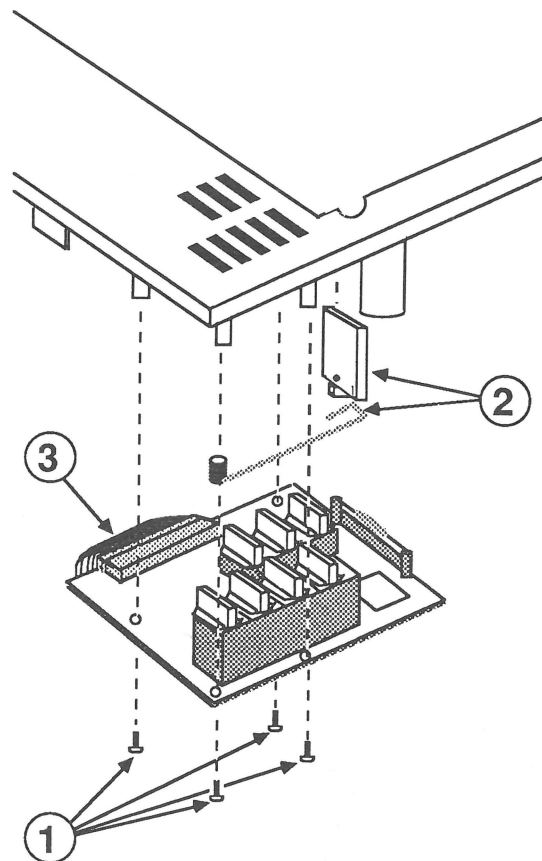

FIGURE 2
3. Remove the four screws holding the operation panel (Figure 2, #1).
4. Lift the operation panel from the top cover. Remove the power button and spring (Figure 2, #2).
5. Unplug the cable from the switch assembly panel (Figure 2, #3).
2. Connect the power button and spring (Figure 2, #2) by placing the coiled half of the spring over the outer-corner screw mount, and over the button in the top opening on the cover.
3. Plug the cable into the operation panel (Figure 2, #3).
5. Replace the four screws (Figure 2, #1).